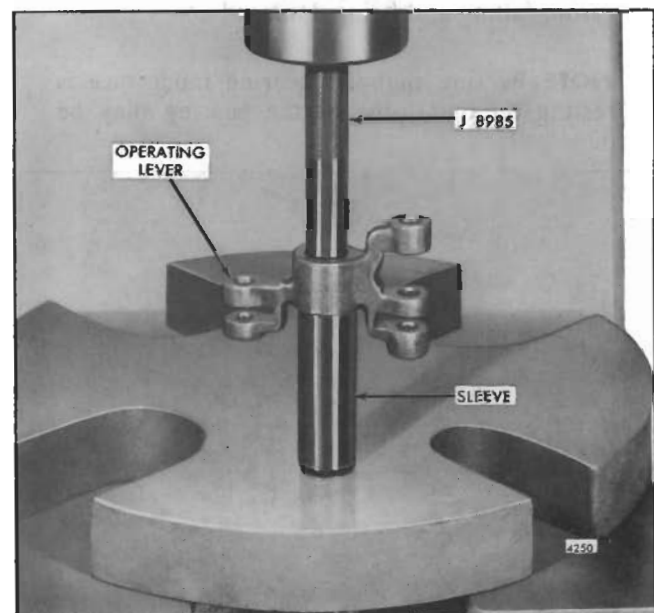

Fig. 16 - Removing Operating Lever Needle Bearings
- m. If removal of the needle bearing is necessary, support the control link operating lever on a sleeve and rest the sleeve on the bed of an arbor press. Place tool J 8985 on top of the bearing and under the ram of the press. Then press both bearings out of the lever as shown in Fig. 16.